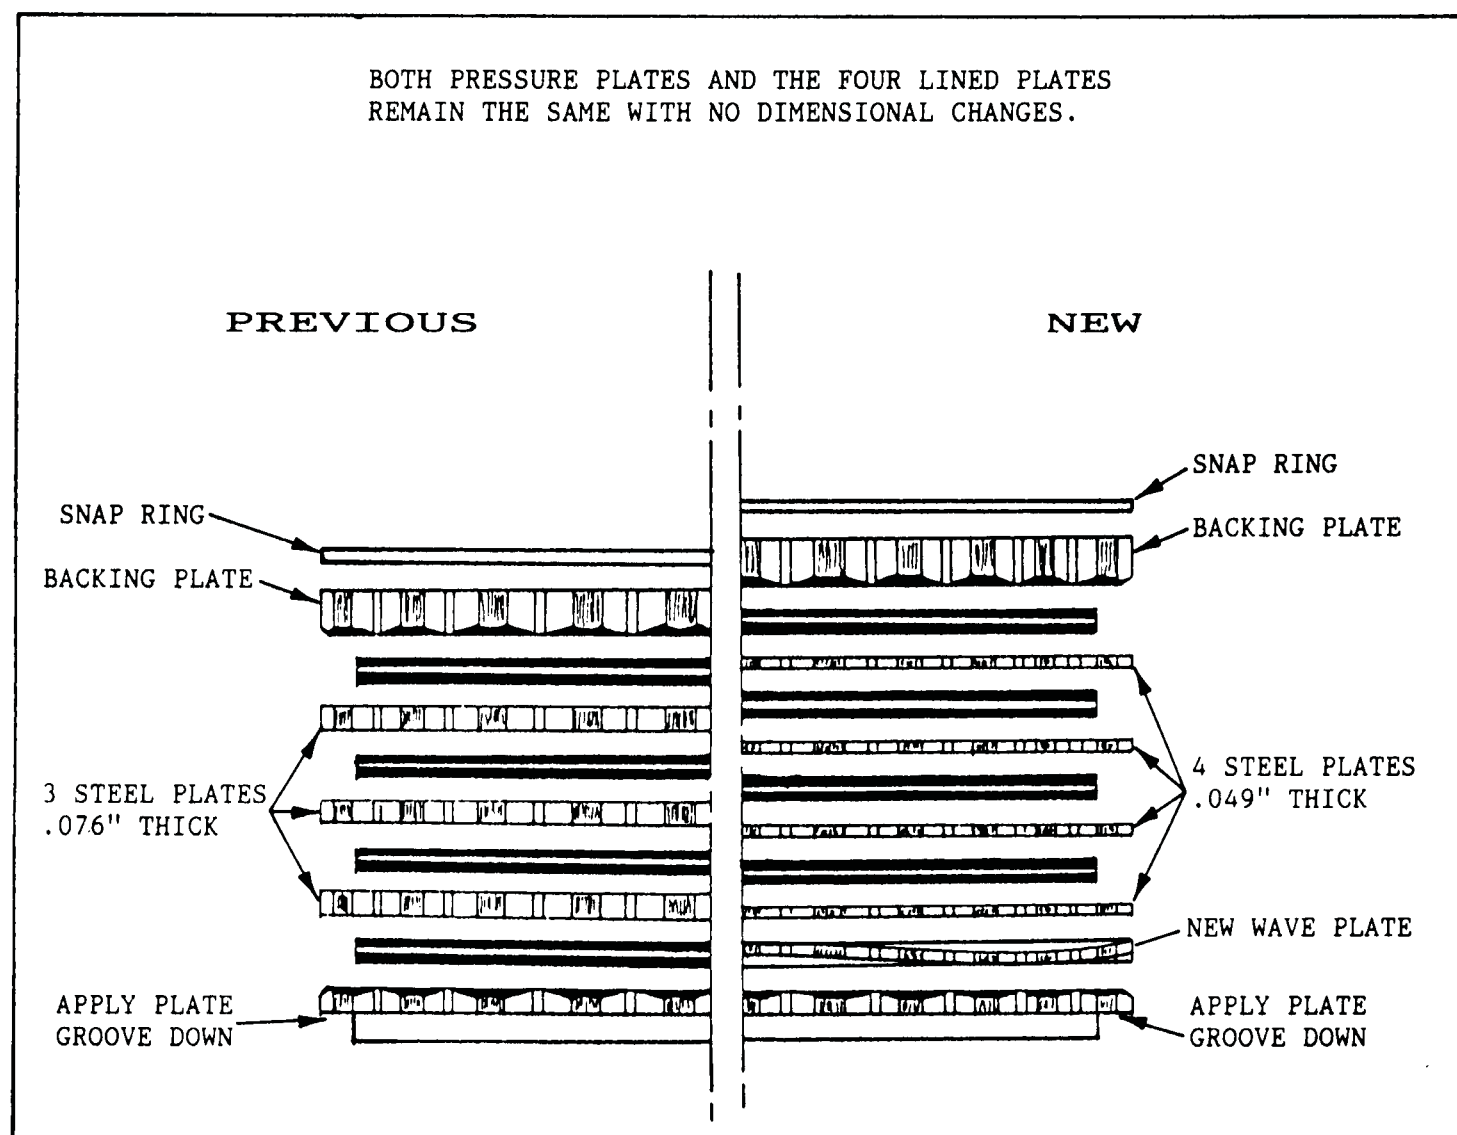

Figure 21
- (3) INPUT CLUTCH STEEL PLATES - The steel plates are .027" thinner to help accomodate the added wave plate (See Figure 21). The new steel plates are .049" thick, and the old steel plates are .076" thick (Figure 21).
- (4) INPUT CLUTCH "STACK-UP" - The input clutch stack has also been revised to accomodate the new changes. Refer to Figure 21 for proper assembly of the new input clutches.